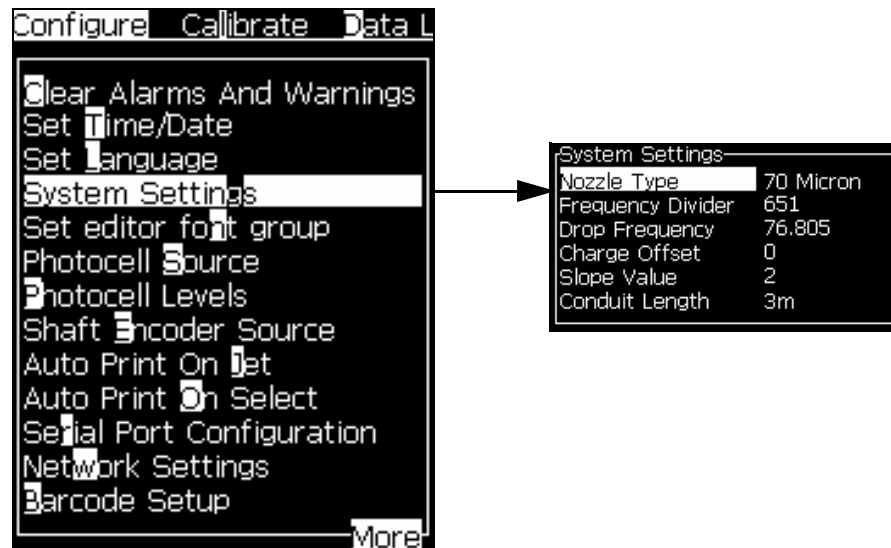

Figure 4-20: System Settings
- Access *Configure > System Settings*. The *System Settings* dialog box appears (see Figure 4-20 on page 4-16). Make sure you select the correct nozzle type for the current configuration (60 micron or 70 micron).